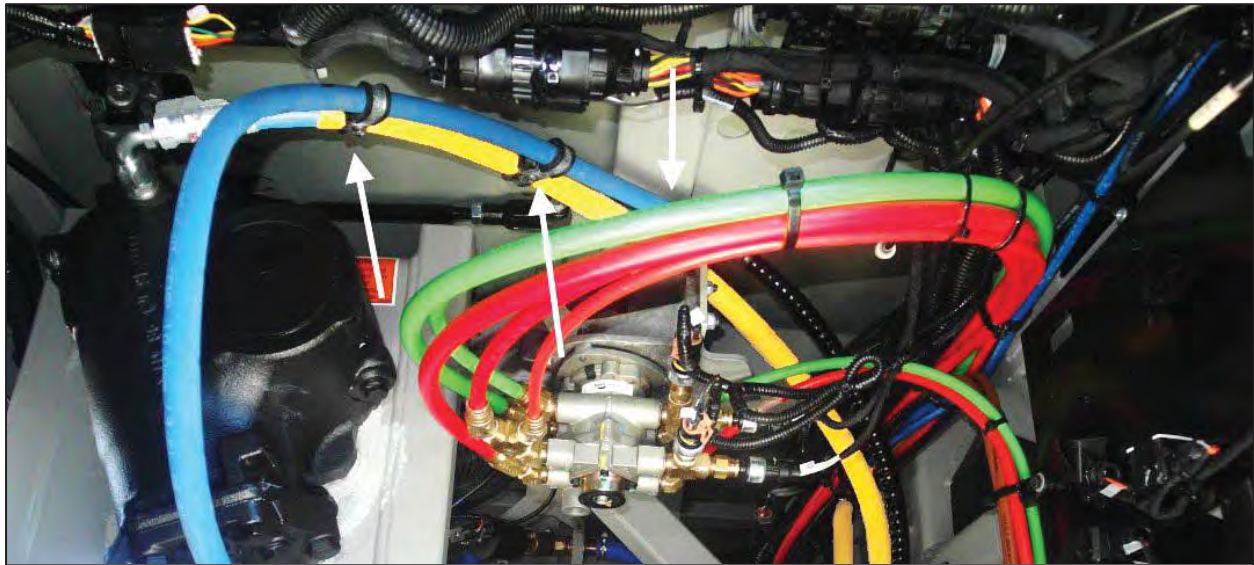
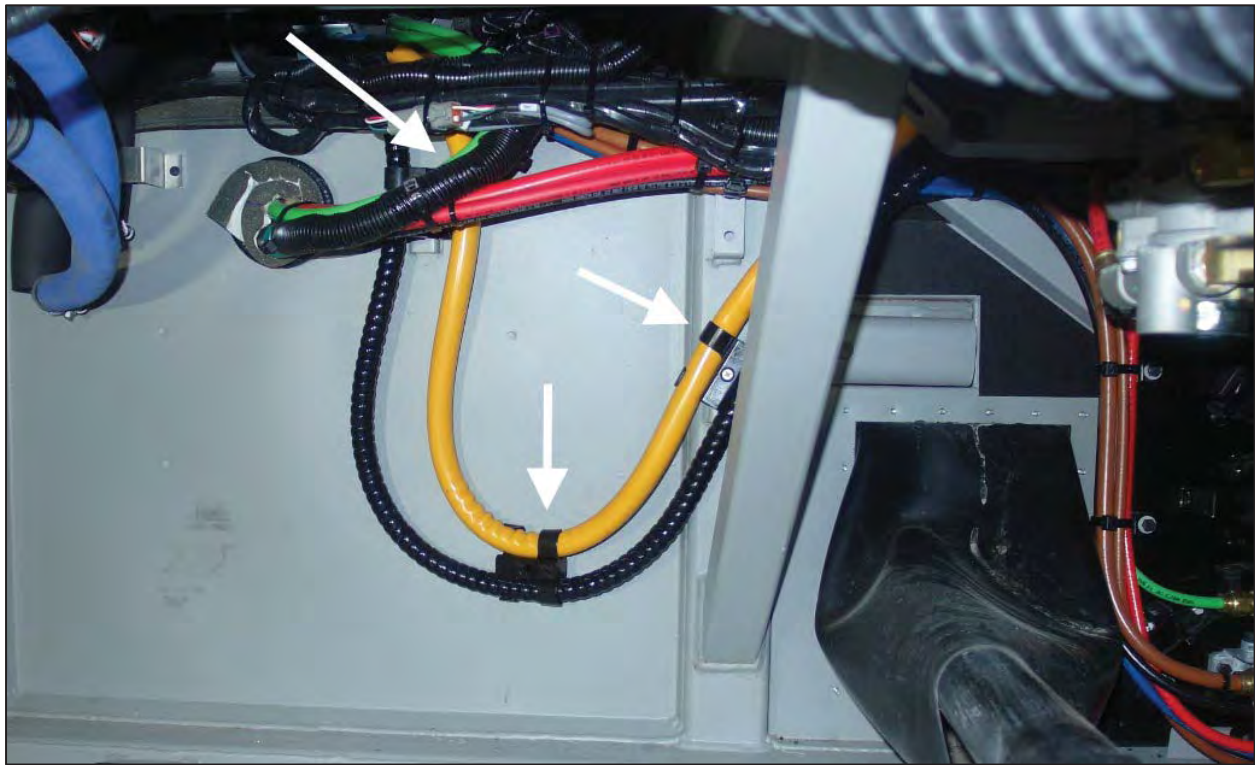
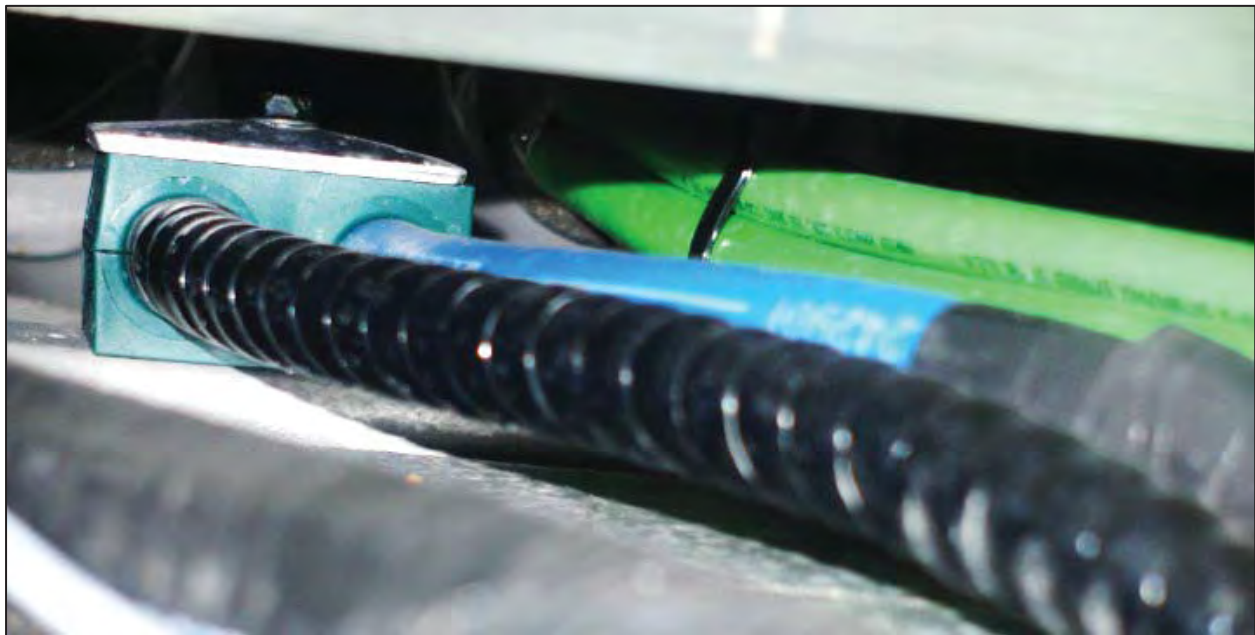

Figure 4: P-clamps in front service compartment.
Figure 5: Hose guides on fore wall of front axle well
Figure 6: Block clamp in the tunnel leading to the first luggage bay.
From the spare tire compartment, the following hose routing hardware is accessible: three (3) P-clamps (Fig 4), three (3) hose guides (Fig. 5) and one (1) block clamp (Fig. 6)